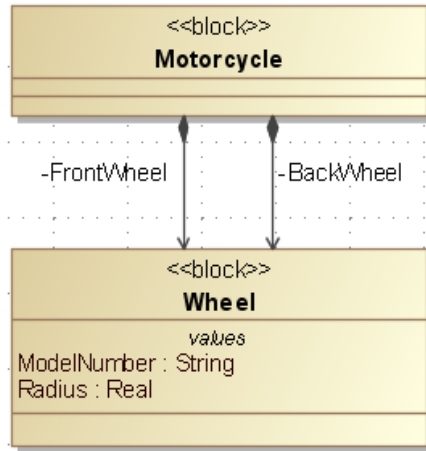

Figure 1.2b Part Properties
- Part properties represent usages of a block; i.e. a block as part of some larger system. In Figure 1.2b, Front Wheel and Back Wheel are two separate roles that Wheel plays as part of Motorcycle.